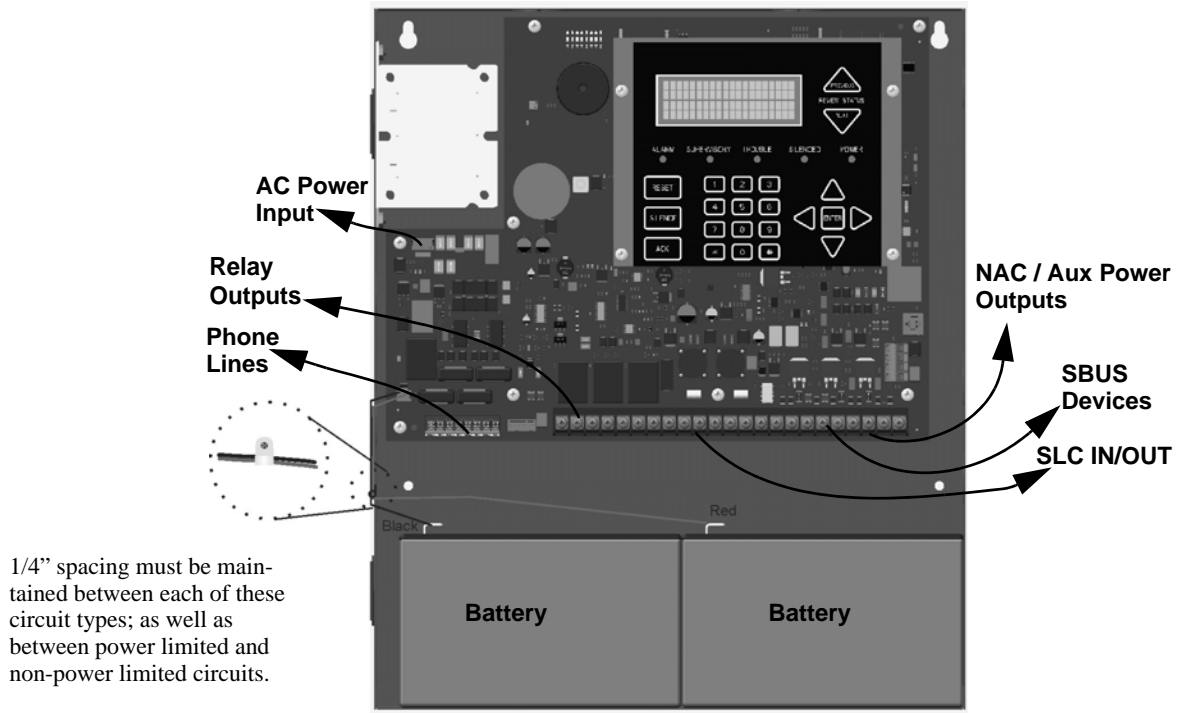

Figure 3.1 Wire Routing Example
- Route the wiring around the inside perimeter of the cabinet. It should not cross the circuit board where it could induce noise into the sensitive microelectronics or pick up unwanted RF noise from the high speed circuits. See Figure 3.1 for an example.